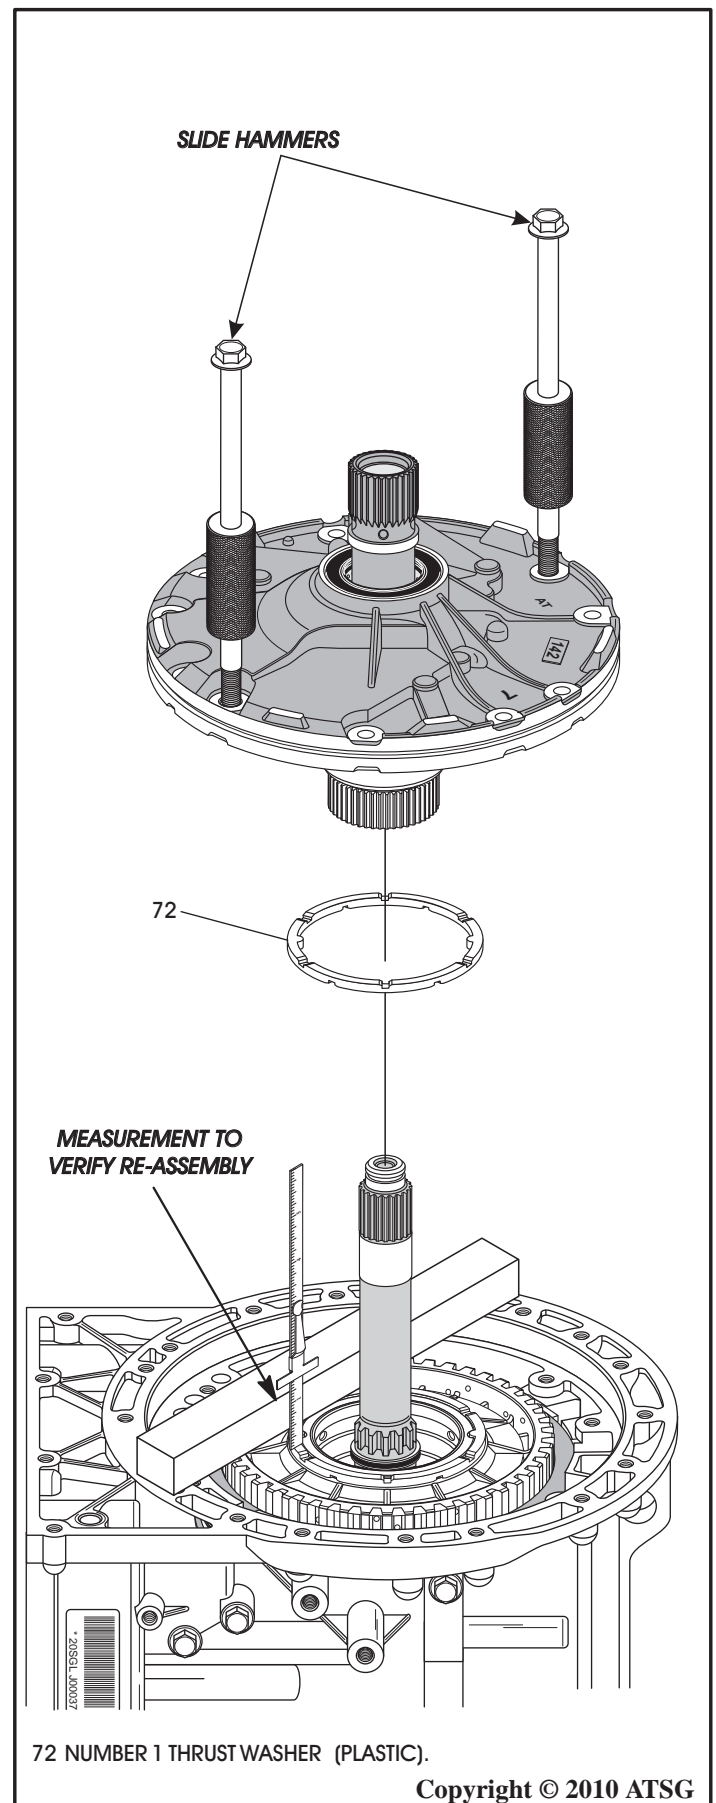

Figure 54
30. Install slide hammers into oil pump in positions shown in Figure 54.
31. Using the slide hammers to loosen the oil pump and remove oil pump as shown in Figure 54.
33. Remove the number 1 plastic thrust washer, as shown in Figure 54.
- Important:** If the washer did come off with the oil pump, put it back on the K3 clutch housing and measure distance from straight edge to thrust washer, as shown in Figure 54. Record this measurement to verify proper re-assembly.